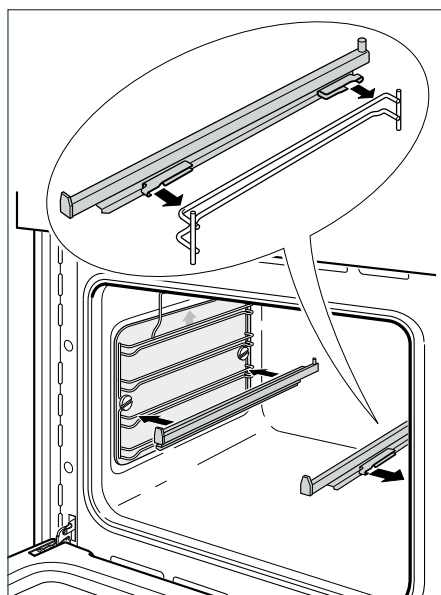

Fig.80 Refitting the sliding shelf supports
- 2 Fit the sliding shelf support onto the top wire of a rack and press (Fig. 80). You will hear a click as the safety locks clip over the wire.
- *the slides so that they run out towards the oven door, as shown in Fig. 80.*